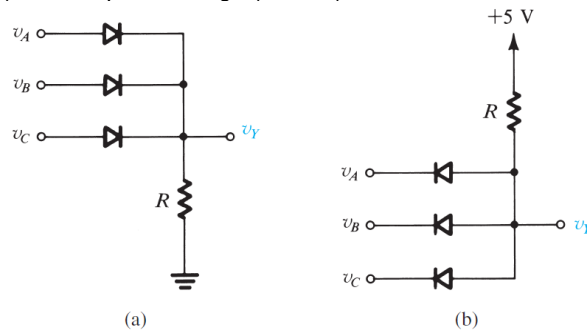

Fig. 2.1. Diode logic gates: (a) OR gate; (b) AND gate
1. Diode Logic Gates: Diodes together with resistors can be used to implement digital logic functions. Figure 2.1 shows two diode logic gates, each with three inputs, V_A , V_B , and V_C . It is easy to see that diodes connected to +5V inputs will conduct, thus clamping the output V_Y to a value equal to +5 V. This positive voltage at the output will keep the diodes whose inputs are low (around 0 V) cut off. Thus, the output will be high if one or more of the inputs are high. The circuit therefore implements the logic OR function. Similarly, you are encouraged to show that using the same logic system mentioned above, the circuit of Fig. 2.1(b) implements the logic AND function, in which, the output V_Y is high (i.e., +5V) if ALL inputs are high (i.e., 5V).